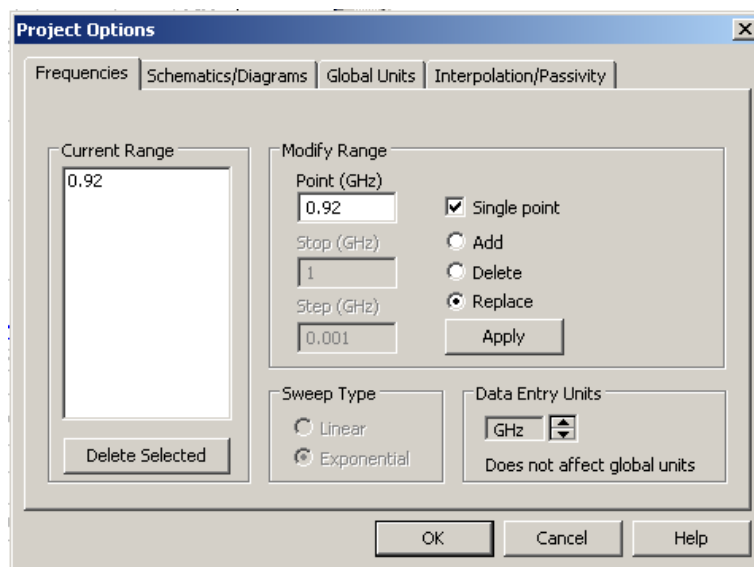

Figure 8.7: Chart 6 : Set Simulation Frequencies
- Ensure your ‘frequencies’ tab is as shown in figure 8.7.